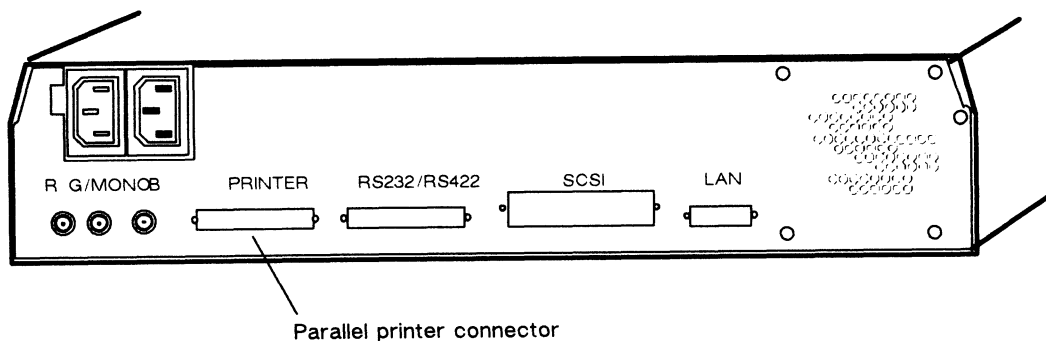

Figure 2-24 Parallel Printer Connector on the Back of the Computer Unit
1. Plug one end of the printer cable into the parallel printer connector on the back of the computer unit as shown in Figure 2-24. Attach the printer cable to the connector by tightening the two screws on the printer cable.